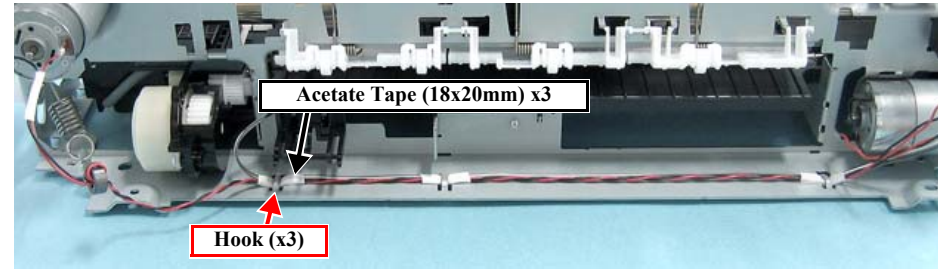

Figure 4-68. Removing the CR Motor Cable
- When the CR Motor has been replaced with a new one, wind acetate tape (18x20 mm) x3 around the harness as shown. (Fig. 4-68)